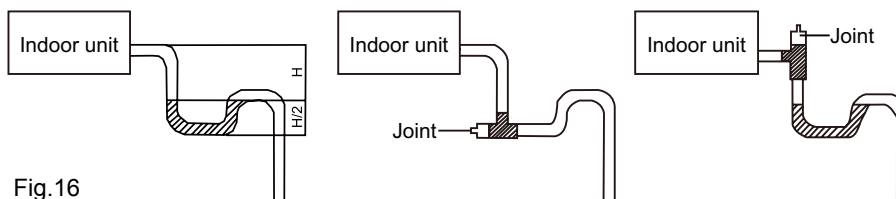

Fig.16
5. If the air flow of indoor unit is high, this might cause negative pressure and result in return suction of outdoor air. Therefore, U-type water trap shall be designed on the drainage side of each indoor unit.(Fig.16)